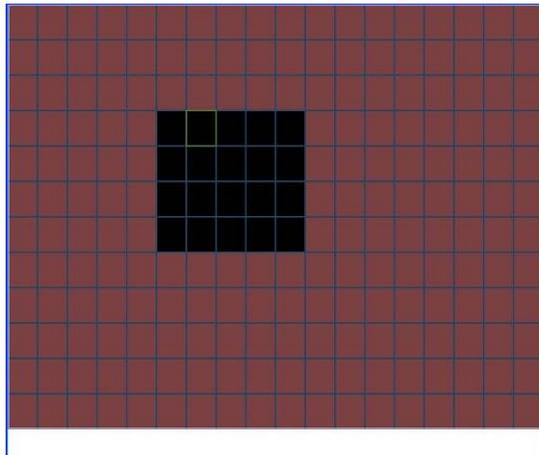

Figure 4-20
- Region: Click select button, the interface is shown as in Figure 4-20. Here you can set motion detection zone. There are 396(PAL)/330(NTSC) small zones. The green zone is current cursor position. Grey zone is the motion detection zone. Black zone is the disarmed zone. You can click Fn button to switch between the arm mode and disarm mode. In arm mode, you can click the direction buttons to move the green rectangle to set the motion detection zone. After you completed the setup, please click ENTER button to exit current setup. Do remember click save button to save current setup. If you click ESC button to exit the region setup interface system will not save your zone setup.